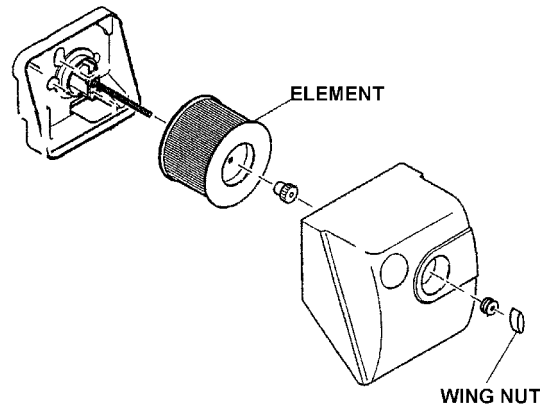

Figure 12. Engine Air Cleaner
1. Loosen the wing nut and detach the cover of the air cleaner shown in Figure 12.
2. Tap the element (Figure 12) several times on a hard surface to remove dirt, or blow compressed air [not exceeding 30 psi (207 kPa, 2.1 kgf/cm²)] through the element side. **NEVER** wash the element with detergent because the element is oil-soaked type. Replace the element when the output decreases or bad exhaust color is noticed.